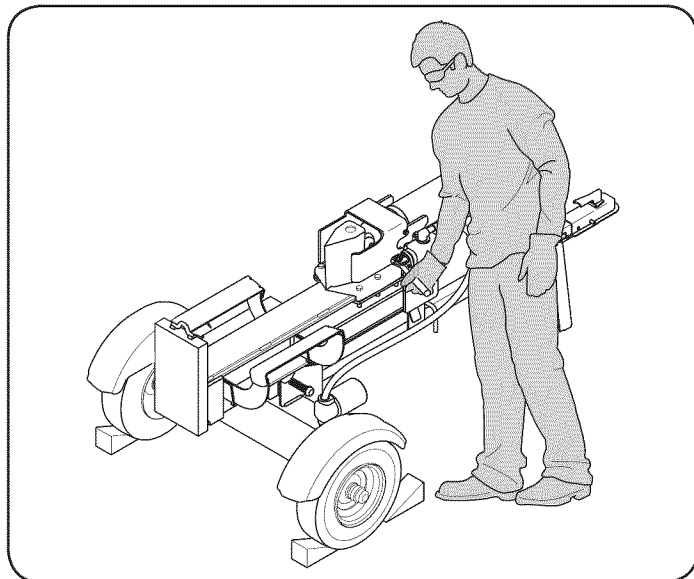

Figure 14
- Stand behind the reservoir tank to operate the control handle and to stabilize the log. See Figure 14.